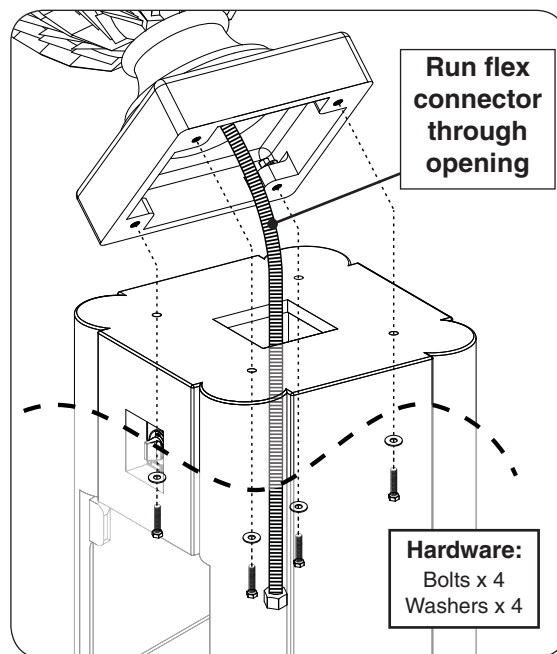

Fig. 16-1 Place urn and secure
1. Carefully place the urn assembly on the pedestal base, ensuring that the flex connector (coming from the inside of the urn) clears the center opening and the four screw holes (found underneath the urn assembly) are aligned with the four holes found on top of the pedestal base (see Fig. 16-1).
2. Insert the hardware kits in the order shown in Fig. 16-1. Hand tighten, then use a $\frac{9}{16}$ " open end wrench (or equivalent) to fasten.